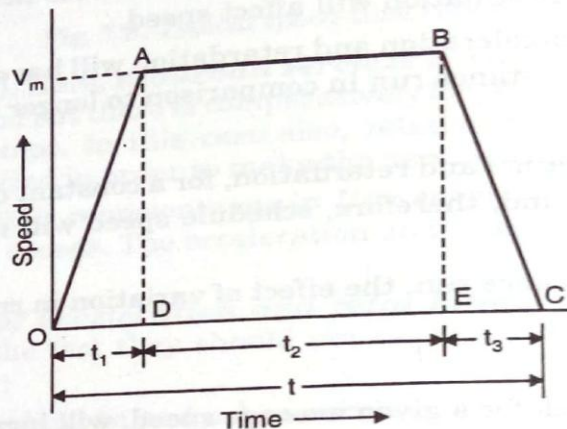

Fig. 7.4. Trapezoidal speed-time curve.
- 1. Trapezoidal speed-time curves.** Fig. 7.4 shows a trapezoidal speed-time curve OABC.
From Fig. 7.4, we have